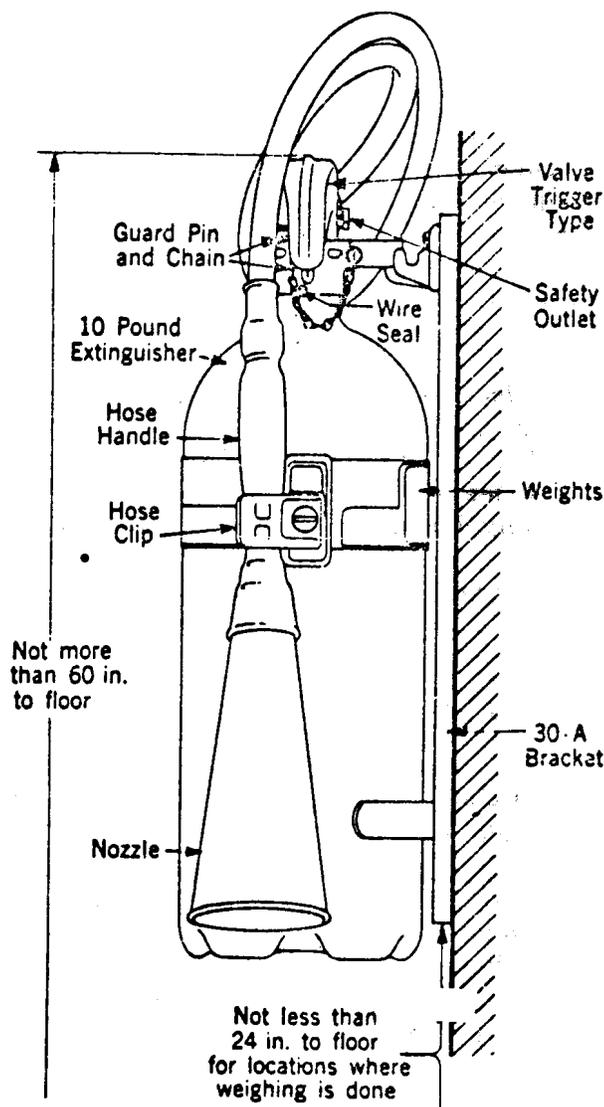

Fig. 1
2.01 Each extinguisher consists of a steel cylinder containing carbon dioxide under pressure which is discharged as a gas through a hose and a cone shaped nozzle when released. A general view of the 10-pound extinguisher having trigger release is shown in Fig. 1.
4.01 10-Pound and 15-Pound: These extinguishers should be mounted on a No. 30A Bracket. Fig. 1 indicates the proper method of mounting.